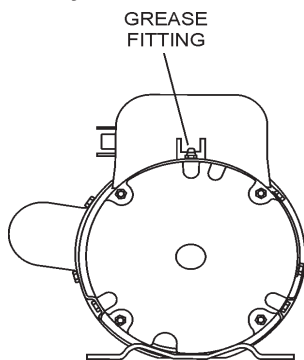

Figure 27. Grease Fittings Electric Motor
1. There are two grease (Figure 27) fittings at each end of the electric motor that will require lubrication. Lubricate these fittings about **every 16 months**.